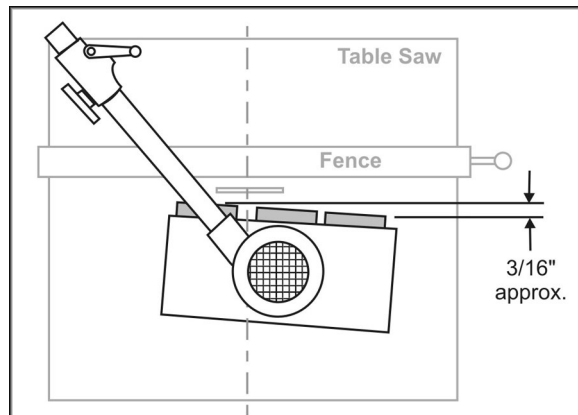

Figure 20
- Position the 3-roller stock feeder so that the axis of the saw blade lines up between the center roller and outfeed roller. (See Figure 20.) Position the 4-roller stock feeder so that the axis of the saw blade lines up between the center wheels. These positions will allow the Stock Feeder to grip the offcut of the workpiece as it leaves the blade.
- Rotate the Stock Feeder so that the direction of feed is angled slightly toward the fence by approximately $3/16"$ (5mm); that is, the outfeed roller should be slightly closer to the fence than the infeed roller. See Figure 20.